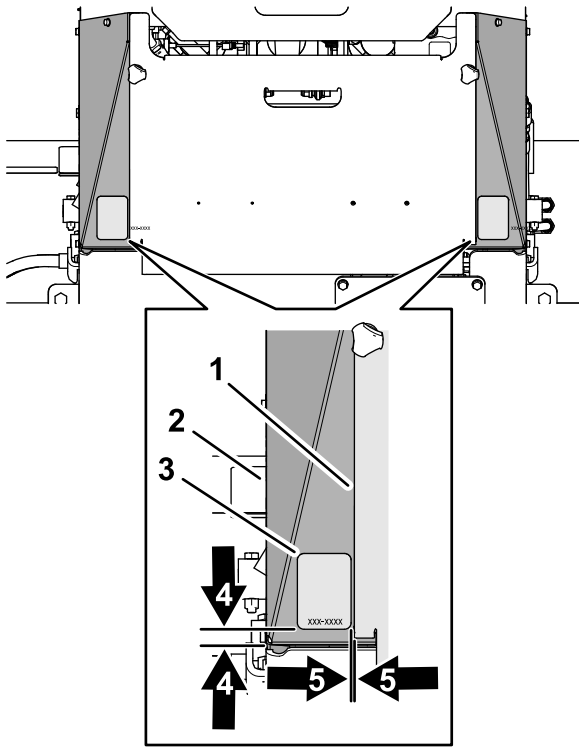
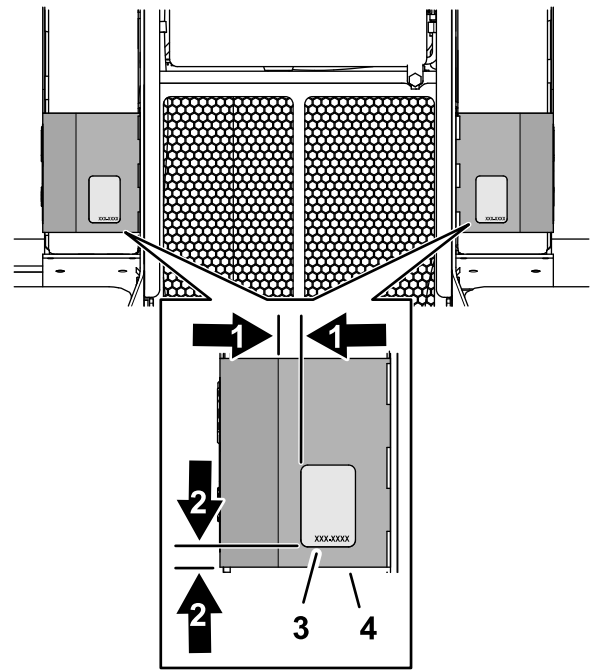
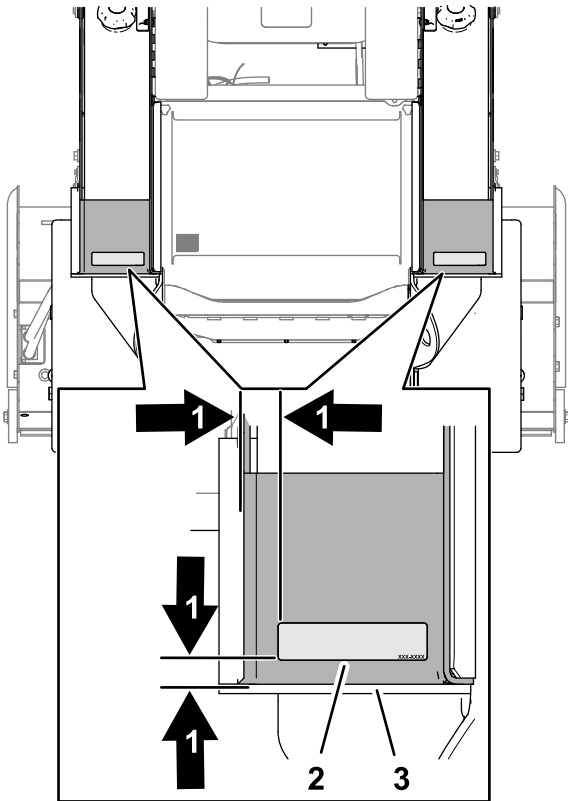

Figure 9
Figure 10
Figure 11
7. Adhere the decal to the mounting surface as shown in Figure 9, Figure 10, or Figure 11.